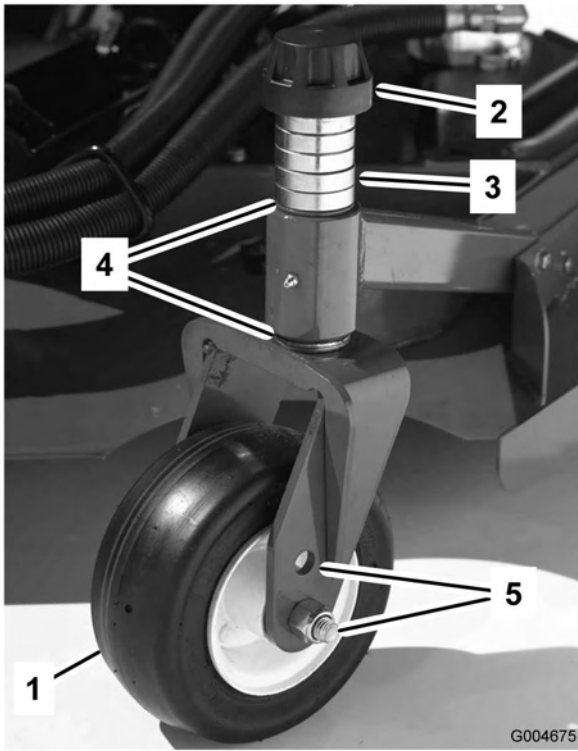
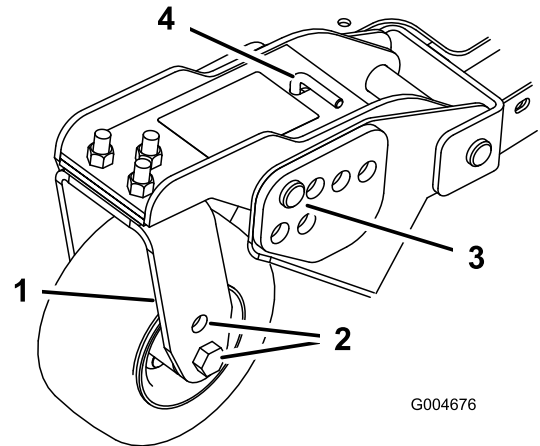
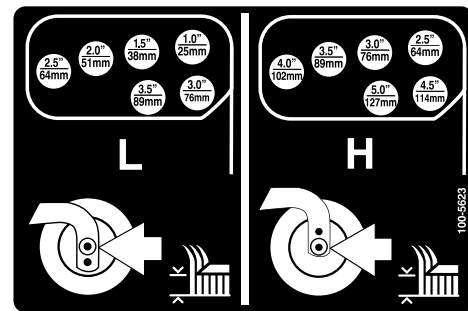

Figure 18
Figure 20
Figure 21
- Position the castor wheel axles in the same holes in all of the castor forks (Figure 18 and Figure 20). Refer to the following chart to determine the correct hole for the setting.
- Remove the tensioning cap from the spindle shaft (Figure 18) and slide the spindle out of castor arm. Put the two shims (1/8 inch [3 mm]) onto spindle shaft as they were originally installed. These shims are required to achieve a level across the entire width of the cutting units. Slide the appropriate number of 1/2 inch spacers onto the spindle shaft to get the desired height-of-cut; then slide the washer onto the shaft.
- Remove the hairpin cotter and clevis pins from the castor pivot arms (Figure 20).
- Rotate tension rod to raise or lower pivot arm until holes are aligned with selected height-of-cut bracket holes in the cutting unit frame (Figure 20 and Figure 21).